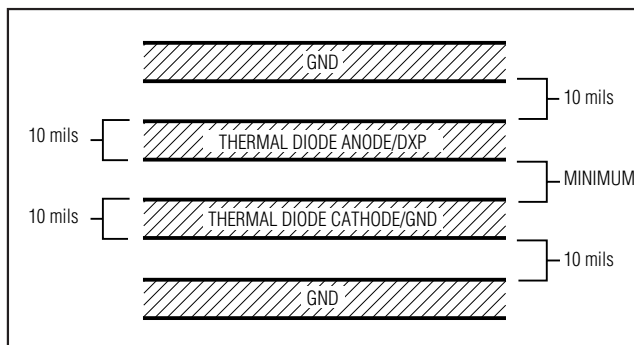

Figure 4. Recommended DXP PC Traces
- 4) Route the thermal diode traces in parallel and in close proximity to each other, away from any higher voltage traces, such as $+12\text{VDC}$. Leakage currents from PCB contamination must be dealt with carefully since a $20\text{M}\Omega$ leakage path from DXP to ground causes about $+1^{\circ}\text{C}$ error. If high-voltage traces are unavoidable, connect guard traces to GND on either side of the DXP trace (Figure 4).
- 7) Use wide traces. Narrow traces are more inductive and tend to pick up radiated noise. The 10-mil widths and spacing recommended in Figure 4 are not absolutely necessary, as they offer only a minor improvement in leakage and noise over narrow traces. Use wider traces when practical.